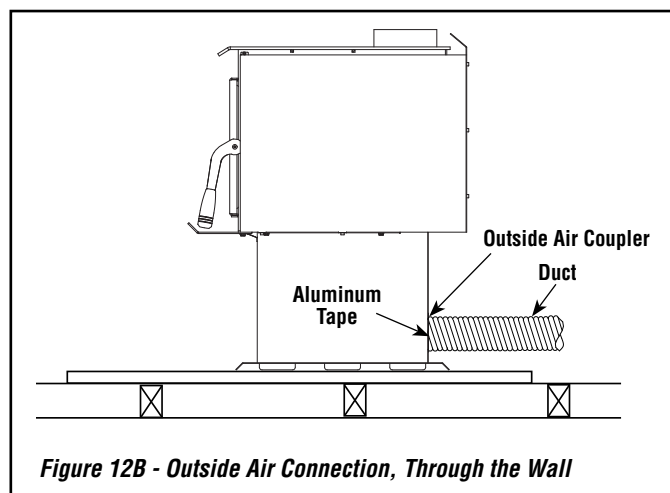
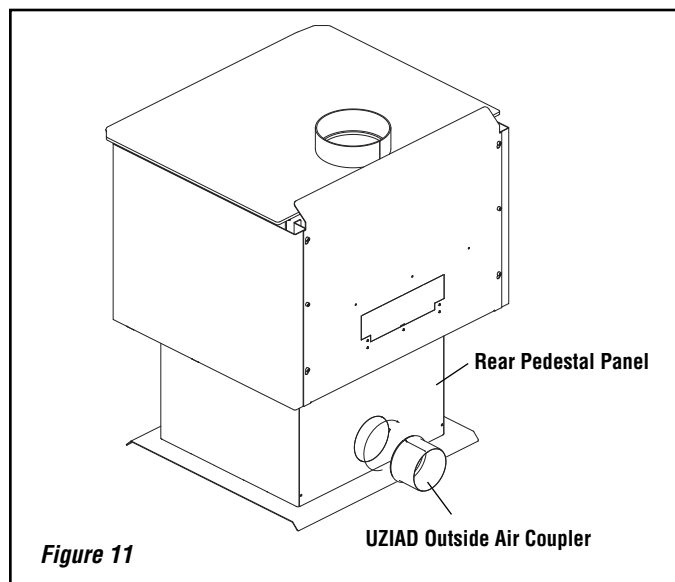

Figure 12B - Outside Air Connection, Through the Wall
Figure 11
1. **Install rear pedestal panel as shown in Figure 11.**
2. **Install Outside Air Coupler** - Line up the "V" notch in the coupler with the "V" notch in the opening on the back of the pedestal (see **Figure 11**). Push and twist so the rolled edge catches and continue turning a full 360° to lock the coupler in place.
3. **Install Ducting and Air Register (refer to Figures 11 through 13)** - The outside air assembly may be installed according to the following requirements:
- b) The air intake register must not be installed more than ten (10) feet (3050 mm) above the base of the stove.
- Make a 4-1/4" (110 mm) hole in the outside wall of the house at the chosen location. From outside, place the outside air register in the hole (open side down) and fasten the register to the wall, with screws as shown (see **Figures 12B and 13**).
- Install the coupler onto the existing collar on stove (see **Figure 11**).